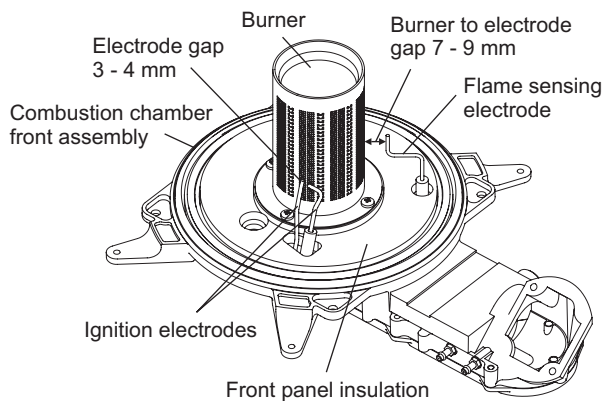

Fig. 7.2 - Pro Tec Plus 50
6. Check the spark gap, positioning and height of the electrodes. Refer to Fig. 7.2 or 7.3.